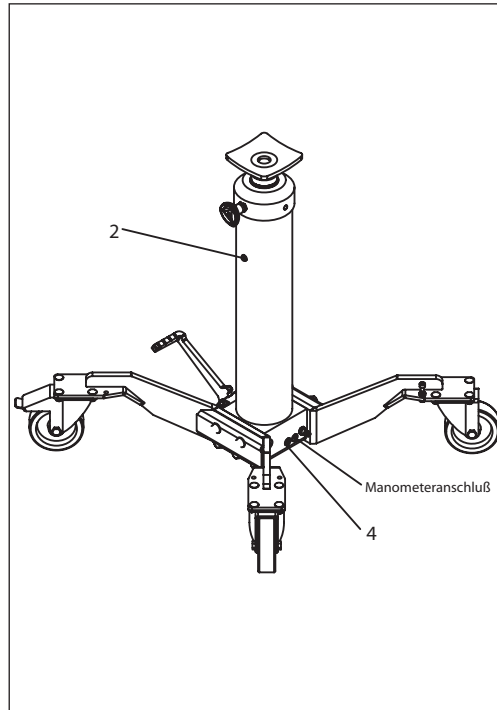

Fig. 2:
- Button “Quick Lift“ (1) to be pressed until carrying plate has reached the load carrying point (Junior Jack pedal (Fig. 2: 1a)
- Button “Pneumatic Motor“ (2) to be pressed until the load has reached the desired height.
- oil drain screw (Fig. 2, Pos. 4) to be taken out and oil to be drained.
- oil drain screw (Fig. 2, Pos. 4) with seal ring to be inserted and fixed tightly.
- Oil bar (Fig. 2, Pos. 2) to be turned out.
- Oil bar (Fig. 2, Pos. 2) with seal ring to be turned in and fixed tightly.